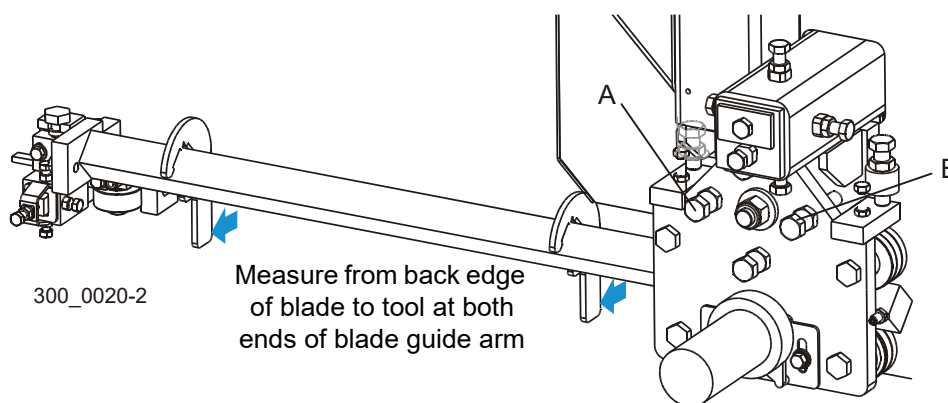

FIG. 7-33
See Figure 7-33. Attach the blade guide arm alignment tool to the blade guide arm, near the outer blade housing. Measure the distance from the back edge of the blade to the tool. Move the tool to the end of the arm near the blade guide. Measure again from the back edge of the blade to the tool. The two measurements at each end of the arm should be the same within $1/32$ ". To adjust the horizontal tilt of the arm parallel to the blade, adjust the bolts (A & B) on the blade guide arm mounting plate. Loosen the jam nuts. Adjust bolt (A) out and bolt (B) in to move the arm away from the blade. Adjust bolt (B) out and bolt (A) in to move the arm toward the blade. Recheck the distance from the back edge of the blade to the tool at both ends of the arm. Readjust if necessary. Tighten the jam nuts.